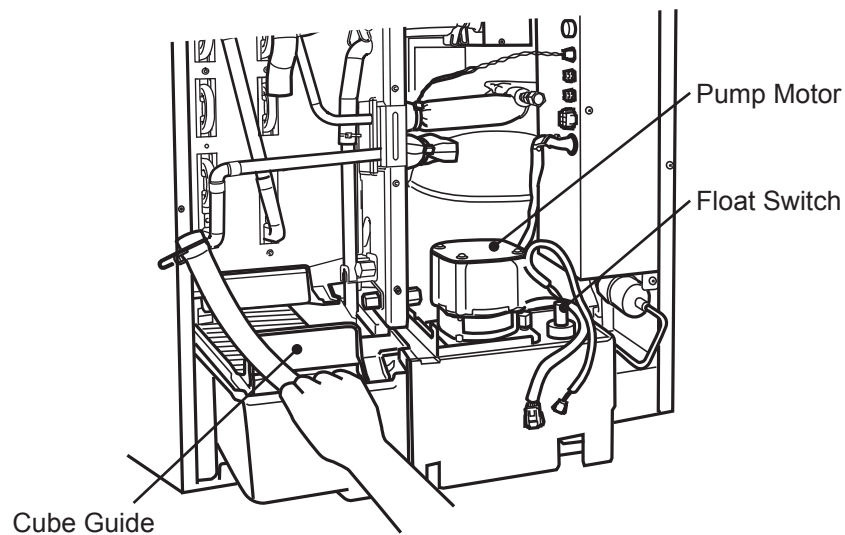

Fig. 13
- d. Pull out the water tank, cube guide, pump motor bracket, pump motor and float switch together. See Fig. 13.